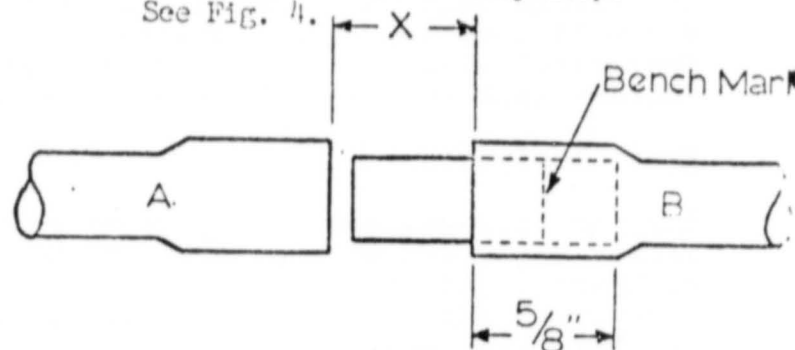

Figure 4
- 1) Insert the four (4) male coupling nipples into the swedges of collector "B" until they stop. See Fig. 4.
- j) Carefully place collector "B" into position. Note there is only  $1/8"$  gap between end of header swedge and edge of nipple. See Fig. 4.